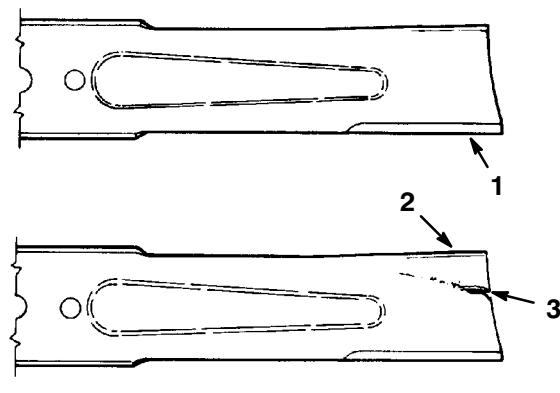

Figure 34
2. Inspect the cutting edges (Fig. 34). If the edges are not sharp or have nicks, remove the blade(s) and sharpen them; refer to Sharpening the Blade(s), page 37.
3. Inspect the blade(s), especially the curved area (Fig. 34). If you notice any damage, wear, or a slot forming in this area (Fig. 34), immediately install a new blade.